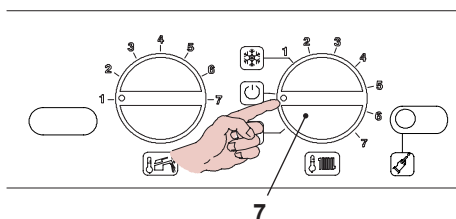

Figure 16.14
- To exit programming, position the function selector 7 to “U” (Figure 16.14), or disconnect the electric power supply from the boiler.